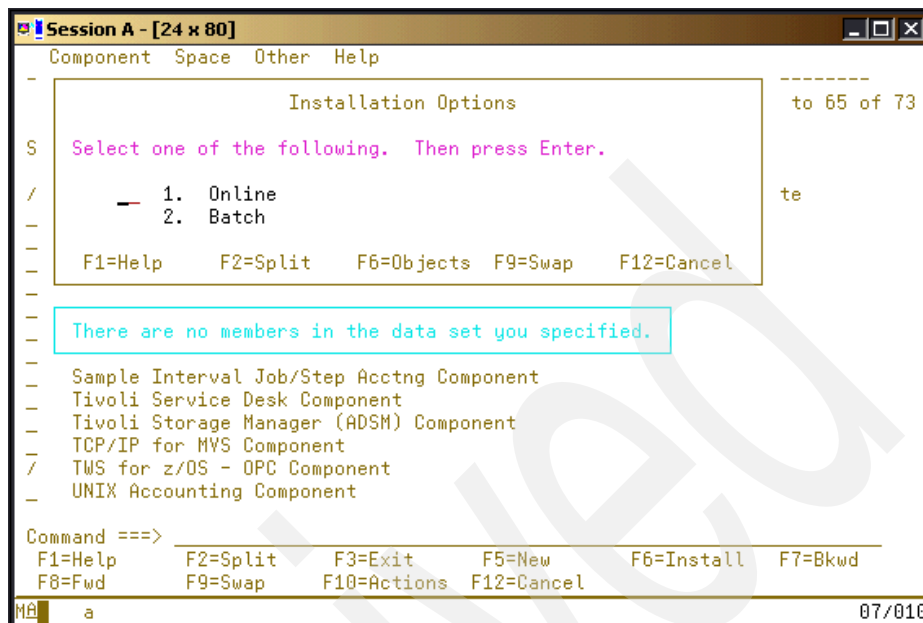

Figure 6-2 Selecting the installation method
4. Press F6 (Install) to install. The Installation Options appears, as shown in Figure 6-2 on page 211.